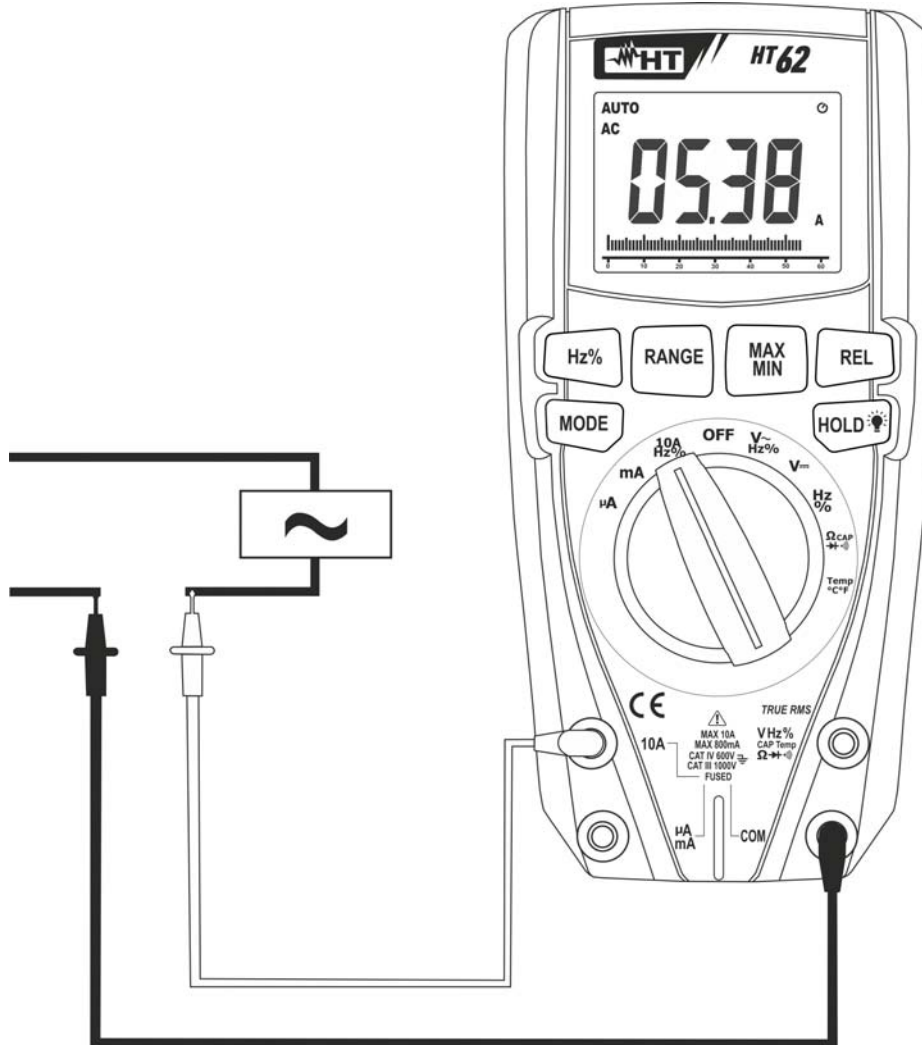

Fig. 10: Use of the instrument for AC current measurement
5. Connect the red lead and the black lead in series to the circuit whose current you want to measure, respecting polarity and current direction (see Fig. 10).